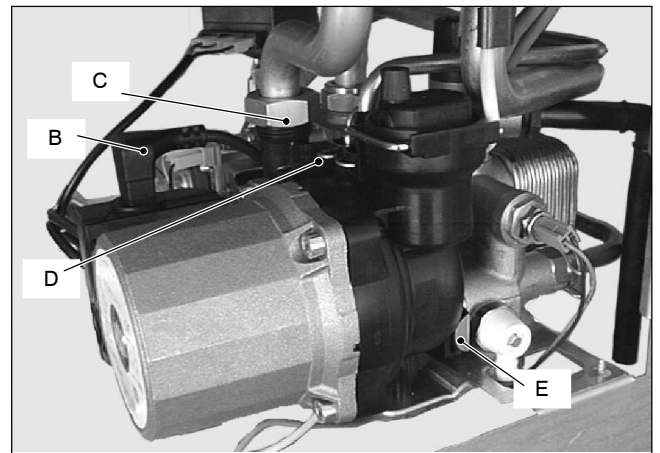

Fig. 2
- 4 Disconnect the connector *B* (Fig. 2).
- 7 Remove the locking plate *E* right (Fig. 2).